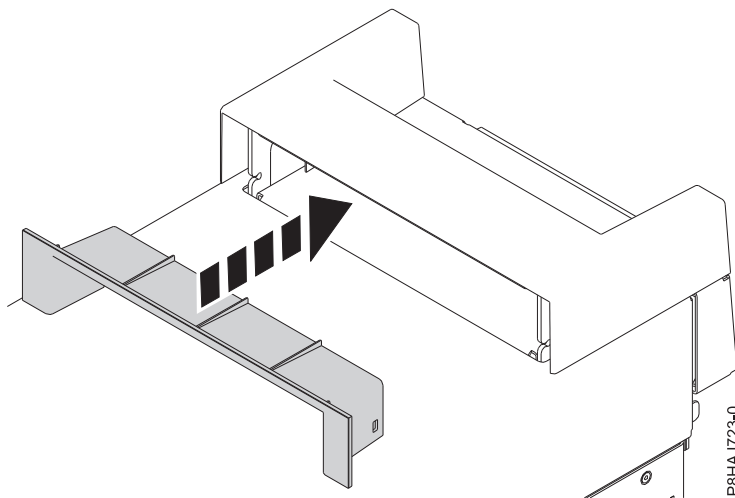

Figure 36. Inserting the piece within the handle cover on an 8286-41A stand-alone system
2. Insert the piece within the handle cover by pushing it firmly into the handle cover as shown in Figure 36.